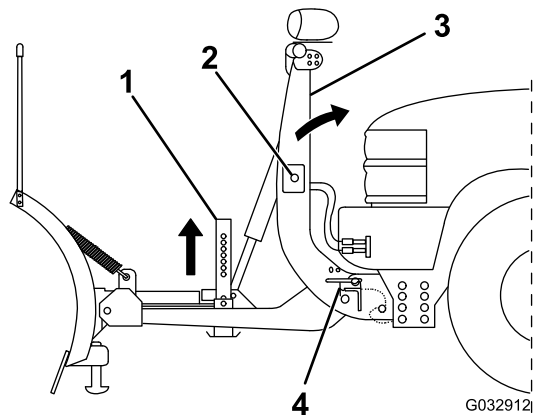

Figure 30
5. Push the SmartHitch2 switch on the side of the coupler tower upward and raise the tower until the coupler spring pins snap in (Figure 30).
7. Pull the kickstand spring pin outward and raise the kickstand, then release the spring pin to secure it (Figure 30).